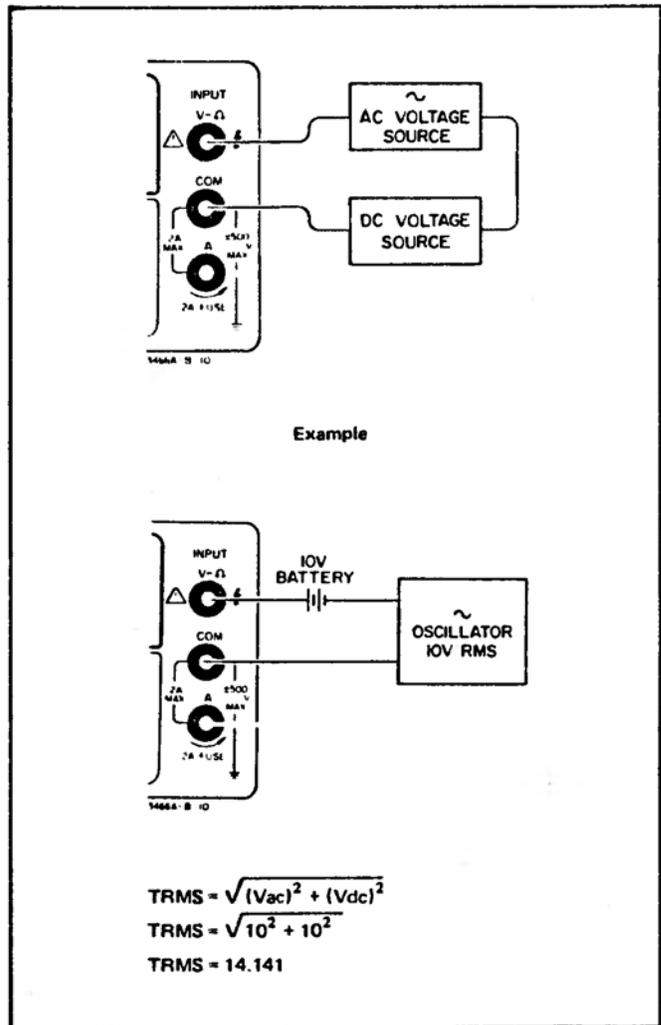

Figure 3-7. True RMS (dc + ac) Voltage Measurements
- c. Connect test leads from the multimeter VΩ (high) and COM (low) terminal to the Voltage under test as shown in Figure 3-7.